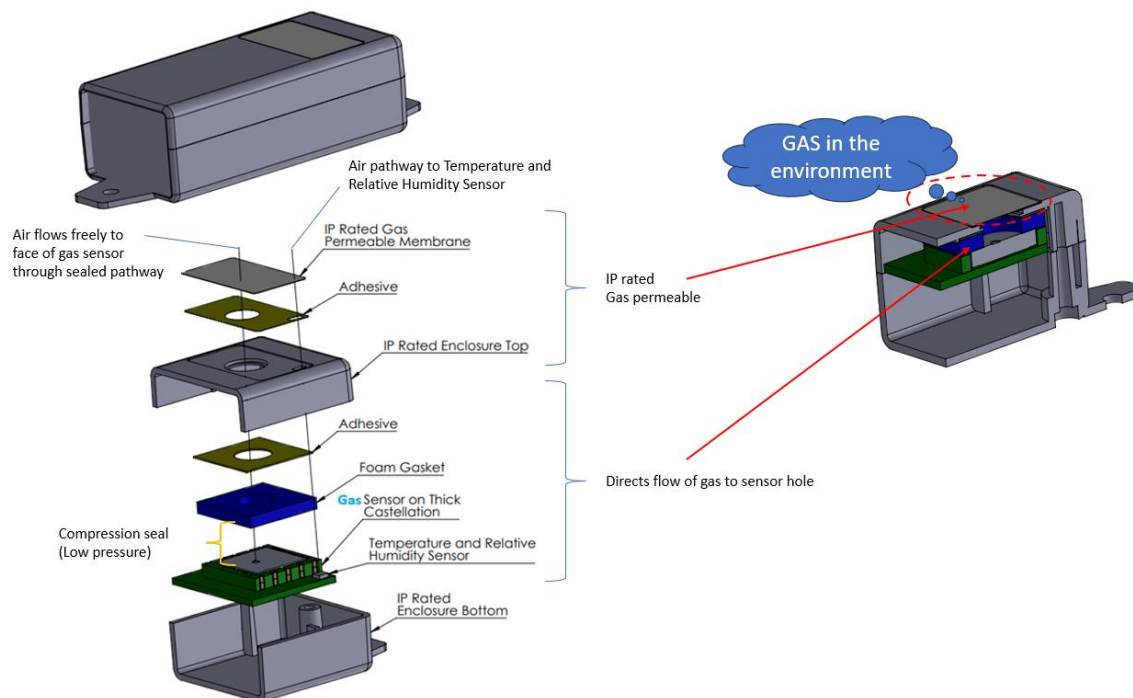

Figure 1: Mechanical Design Considerations
An example of a good mechanical design for diffusion sensing applications is shown in Figure 1.
- Temperature (T) and relative humidity (RH) sensors are often used to compensate the gas sensor measurements. Figure 1 also shows design considerations for the T & RH sensors.